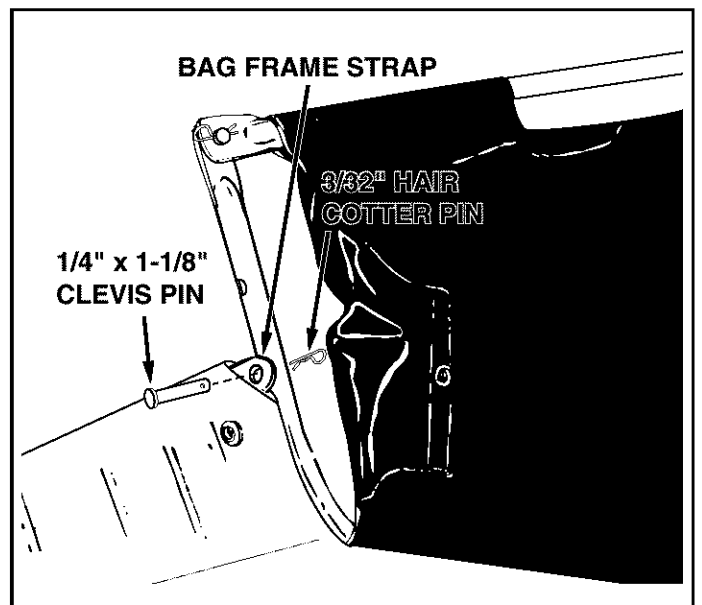

FIGURE 14
- Insert the bag frame strap into the stitched sleeve along the front edge of the bag bottom. See figure 14.
- Assemble the bag frame strap to the holes in the lower hopper tubes using two $1/4"$ x $1-1/8"$ clevis pins and $3/32"$ hair cotter pins. See figure 14.